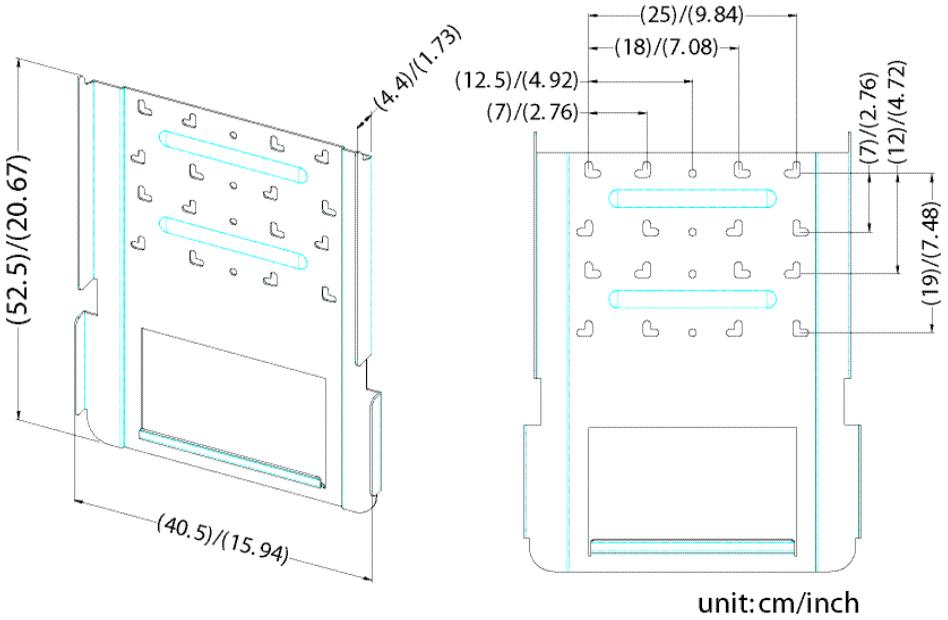

Fig 2.2.2 Inverter mounting bracket
- Use the mounting bracket (figure 2.2.2) as a template to mark the location of the holes to be drilled in the wall. After drilling the holes, the mounting bracket is then held against the wall and fastened to the wall with anchors as shown in the figure 2.2.3. (A minimum of three (3) screws is required)